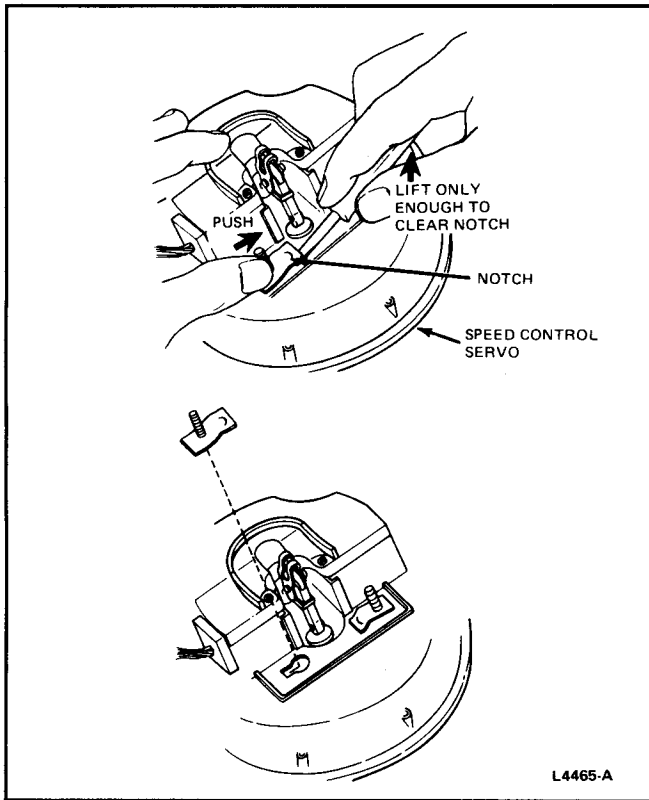

FIG. 7 Servo Bolt Assembly Removal
11. If replacing servo with service stock, remove two bolt assemblies from the front of servo (Fig. 7).
1. Attach two bolt assemblies to the front of servo (Fig. 7).